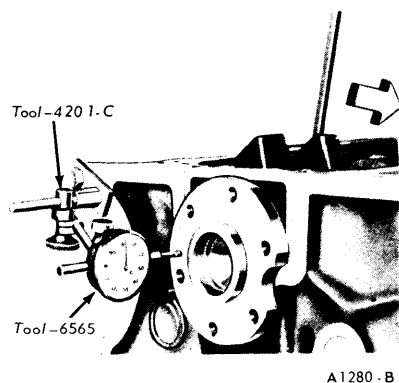

FIG. 56—Crankshaft End Play
16. Install a dial indicator so that the contact point rests against the crankshaft flange and the indicator axis is parallel to the crankshaft axis (Fig. 56).